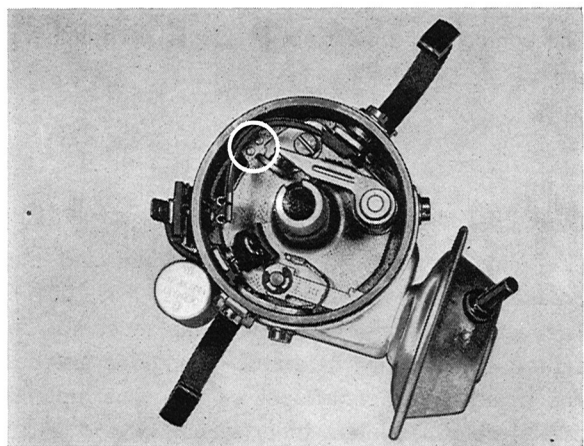

Fig. 3-103. Recess for adjusting the contact breaker
2. Adjustment is made by slackening the screw for the contact points and then inserting a screwdriver in the recess. Fig. 3-103, and turning the screwdriver until the dwell angle is the correct one. Then tighten the screw for the contact points.